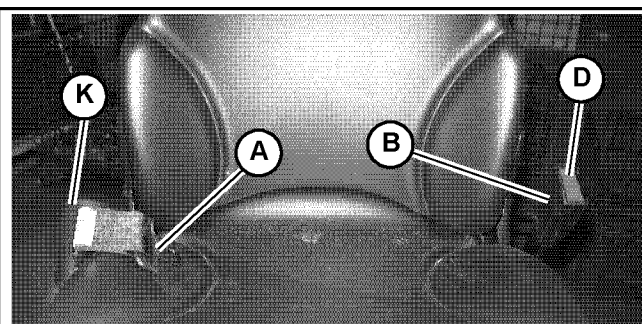

Fig. 45 – Seat Belt
Fasten the seat belt around your hips and waist and insert tongue (A, Fig 45) into clasp (B) until it clicks securely in place. Slack in the seat belt should automatically retract into seat belt spool (K).